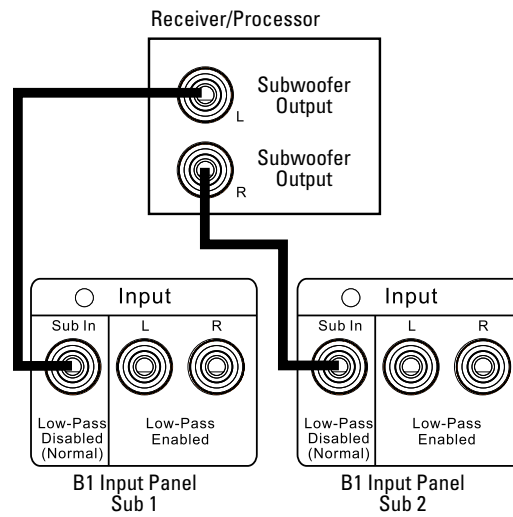

Figure 13: Multiple subwoofer connections
2. Connect the supplied RCA patch cable from one of the Subwoofer or LFE outputs on the processor/receiver to the Sub In connector on the first B1 rear panel, as shown in Figure 13.